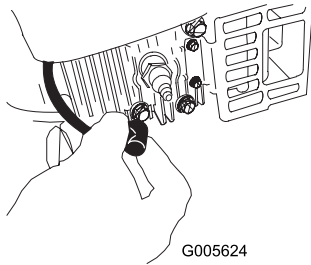

Figure 36
- Disconnect the spark plug wire from the spark plug before performing any maintenance procedure (Figure 36).